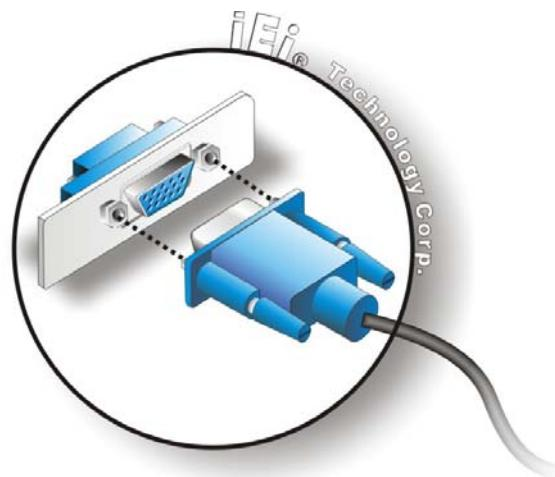

Figure 4-23: VGA Connector
Step 3: Insert the VGA connector Once the connectors are properly aligned with the insert the male connector from the VGA screen into the female connector on the IMBA-G410. See Figure 4-23.